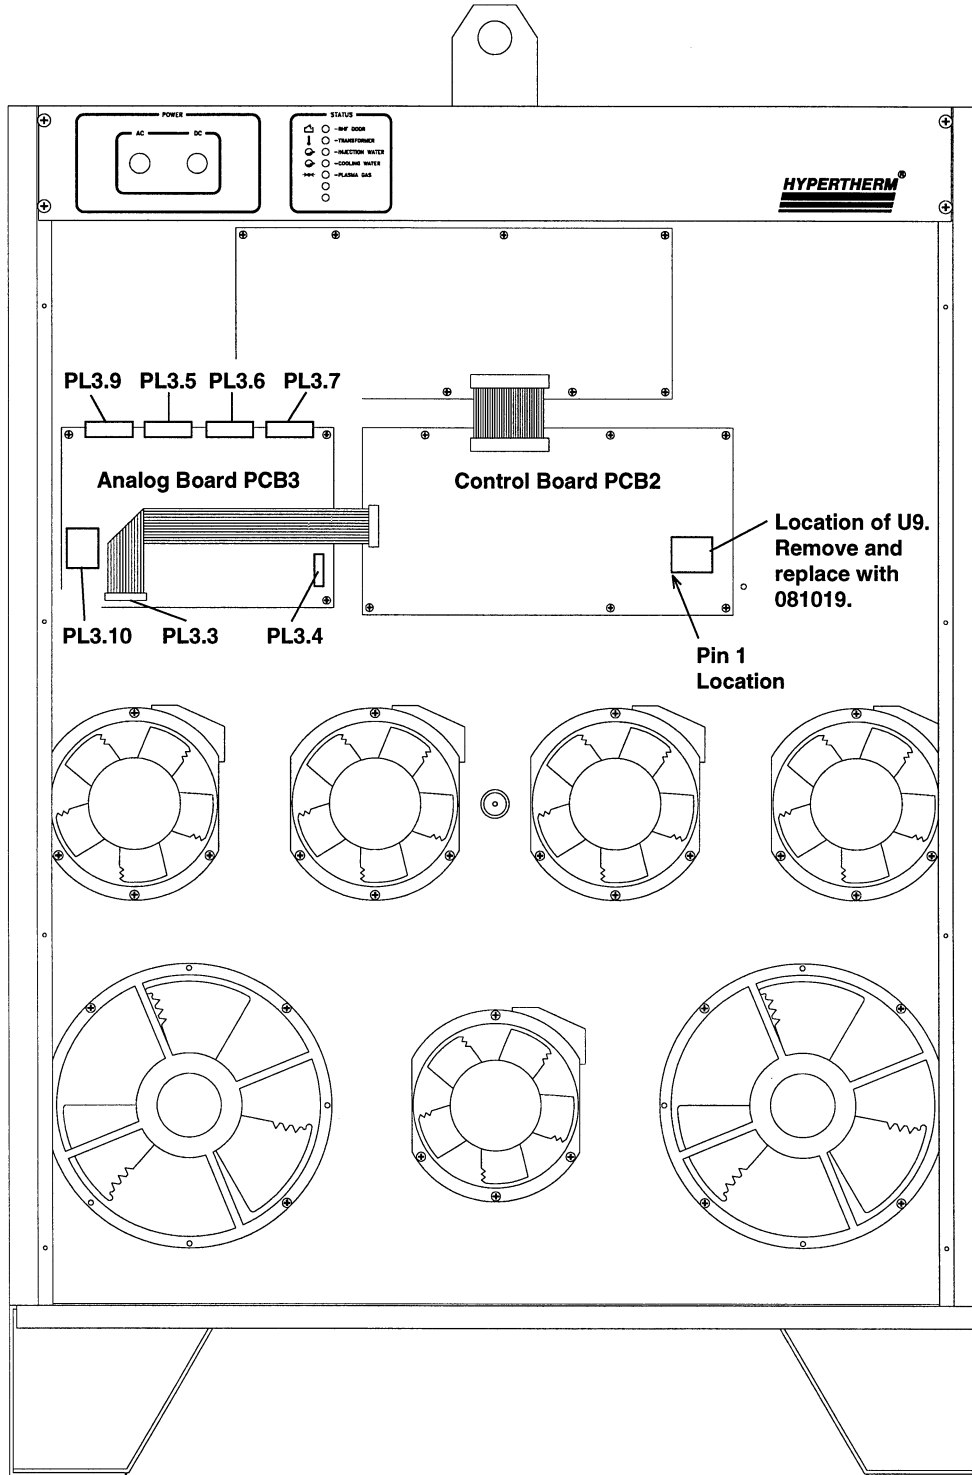

Figure 1 - HT4001 Power Supply - Modification locations
1. Remove analog board PCB3 connectors PL3.9, PL3.5, PL3.6, PL3.7, PL3.10, PL3.4, and PL3.3 from their respective receptacles. Fig. 1.
4. Attach analog board connectors PL3.9, PL3.5, PL3.6, PL3.7, PL3.10, PL3.4, and PL3.3 to the proper receptacles. Refer to Fig. 1.
1. Find and remove U9 from the control board PCB2 using the chip extracting tool supplied. Follow instructions included with tool. Fig. 1.